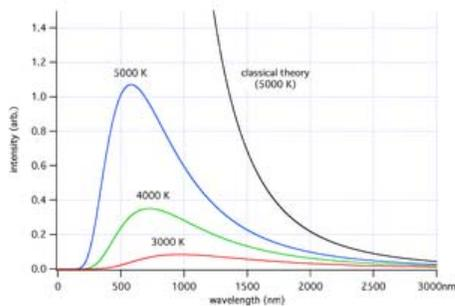

Figure 1: The amount of radiation as a function of frequency: classical and quantum theories (From Wikipedia)
continual increase in radiated energy with frequency was named “the ultraviolet catastrophe” (Fig.1):
Only at long wavelengths, the Rayleigh-Jean Law is in good agreement with experimental data. We can see from (2) that intensity approaches infinity as λ approaches zero. This is the “ultraviolet catastrophe” from Fig. 1.